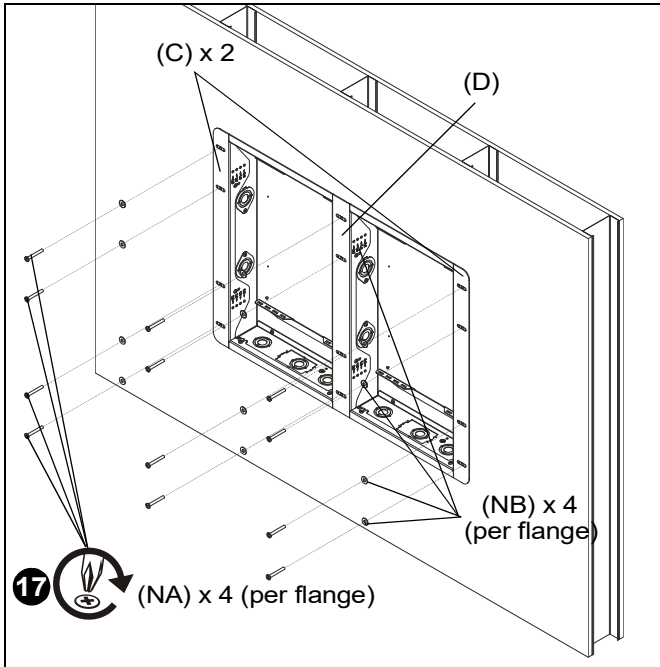

Figure 16
17. Use four 1/4-20 x 2" Phillips pan machine screws (NA) and four 1/4" washers (NB) to secure each flange to studs. (See Figure 13) and (See Figure 16)